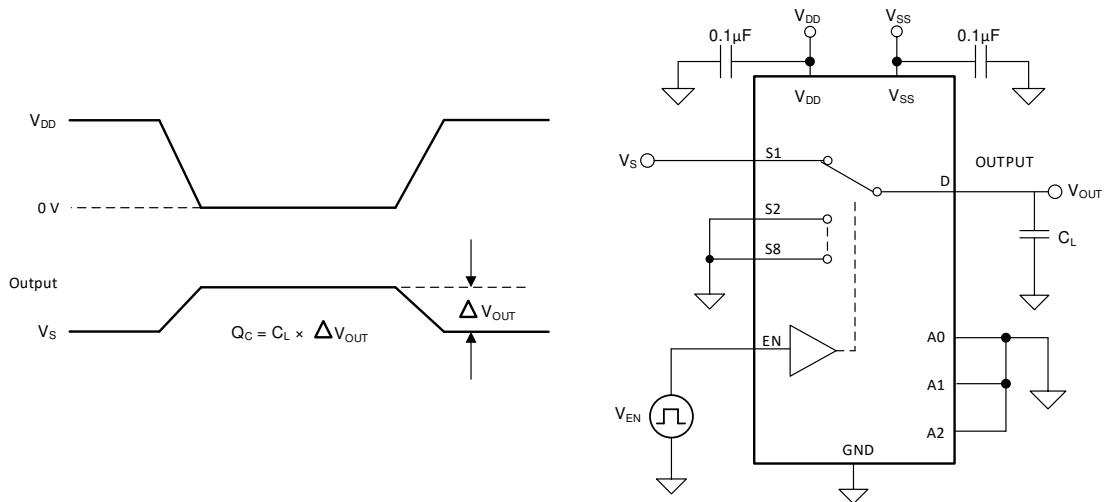

图 7-7. Charge-Injection Measurement Setup
The TMUX1108 has a transmission-gate topology. Any mismatch in capacitance between the NMOS and PMOS transistors results in a charge injected into the drain or source during the falling or rising edge of the gate signal. The amount of charge injected into the source or drain of the device is known as charge injection, and is denoted by the symbol Q_C . 图 7-7 shows the setup used to measure charge injection from source (S_x) to drain (D).